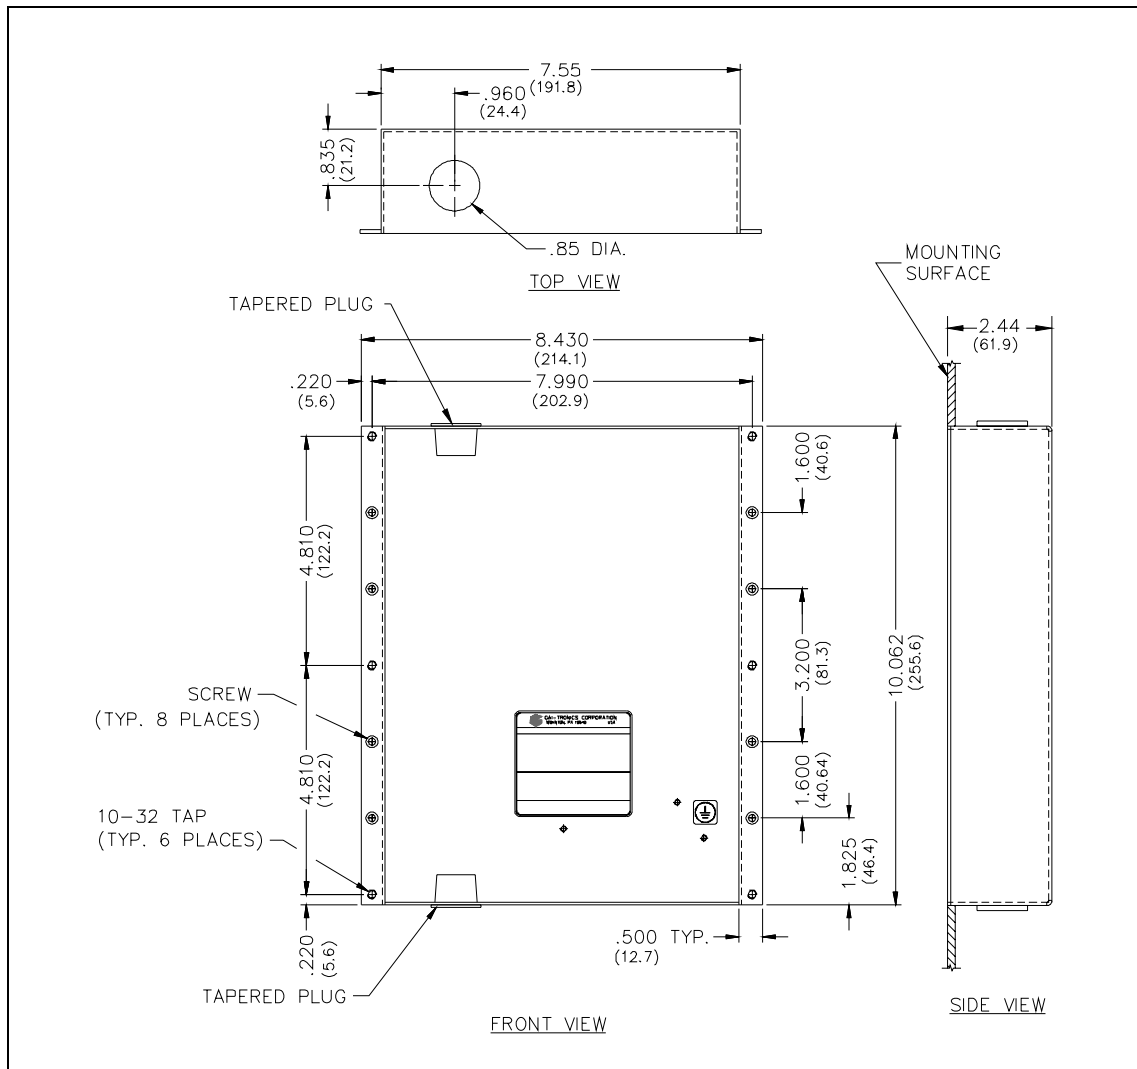

Figure 6. Model 297-103 and 298-103 Mounting Details
1. When mounting in a GAI-Tronics Model 234 Series Stanchion or for flush-mount installations, the supplied back box must be used to mount the Model 297-103 or 298-103 Telephone. Mount the back box to the structure using the appropriate hardware. Refer to Figure 6 for cutout dimensions.